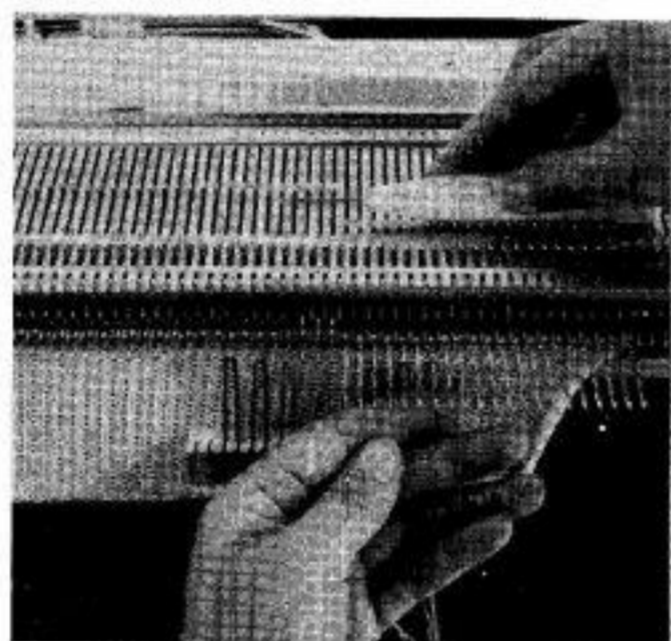

Fig. 68
- (d) Bring forward into Position (E) every working needle and knit one row. (Fig. 68)